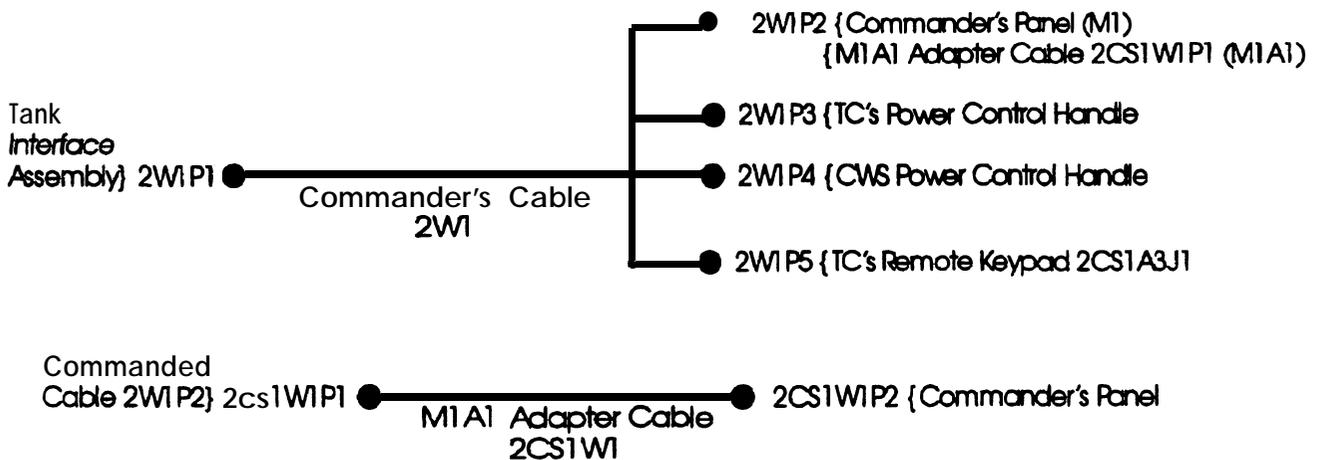

Figure 2-52. Commander's Crew Station Cable 2W1 Wire Diagram
2.4.7.4.3.2 **Commander's Crew Station Cable Initial Position.** Position the Commander's Crew Station cable 2W1 to make the connections shown in Figure 2-52 as follows: